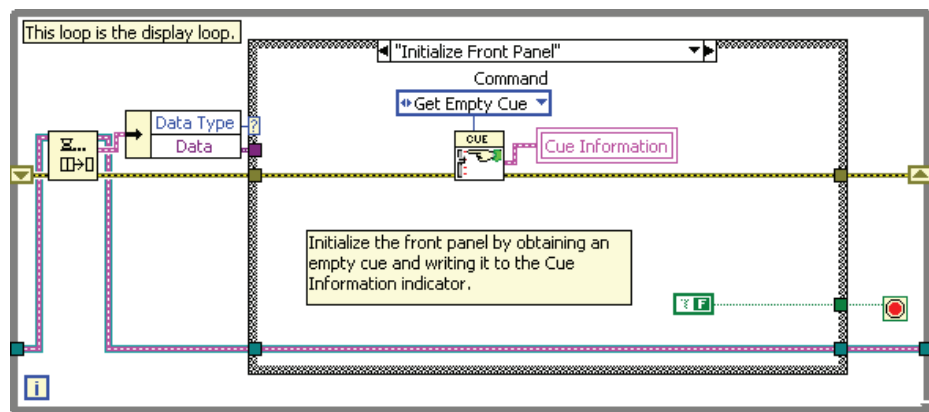

Figure 7-5. Initialize Front Panel
1. Modify the Initialize Front Panel case as shown in Figure 7-5 using the following items.